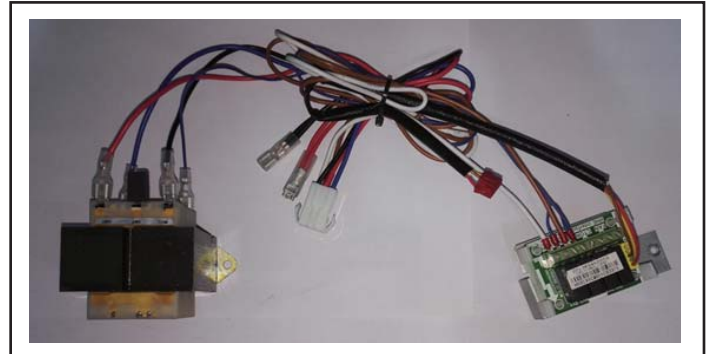

Figure 4. Transformer and Relay Assembly
5. Prepare the transformer and relay assembly for installation. Figure 4 shows the transformer and relay assembly.